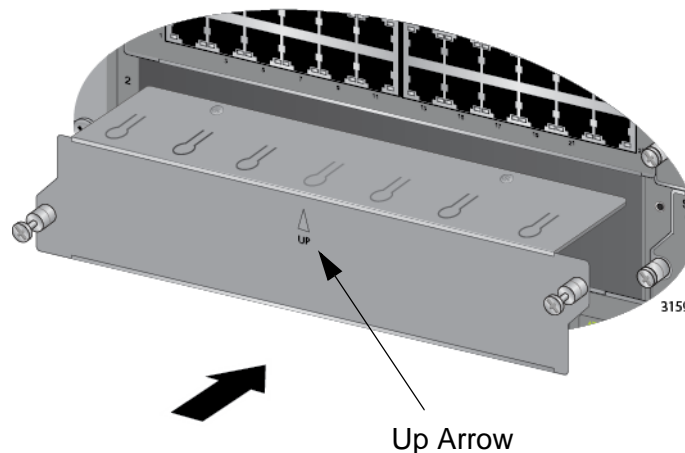

Figure 78. Installing a Blank Slot Cover
1. Position a blank slot cover over an unused slot, as shown in Figure 78. The up arrow on the panel must be pointing up.